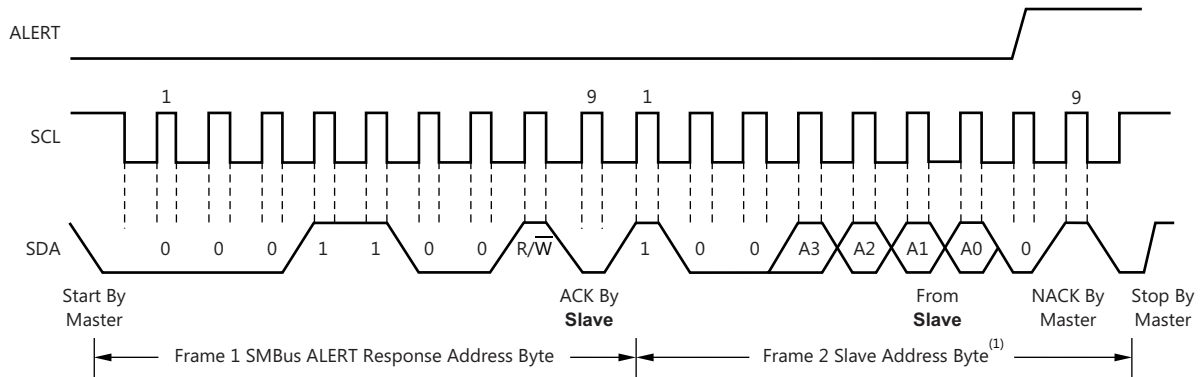
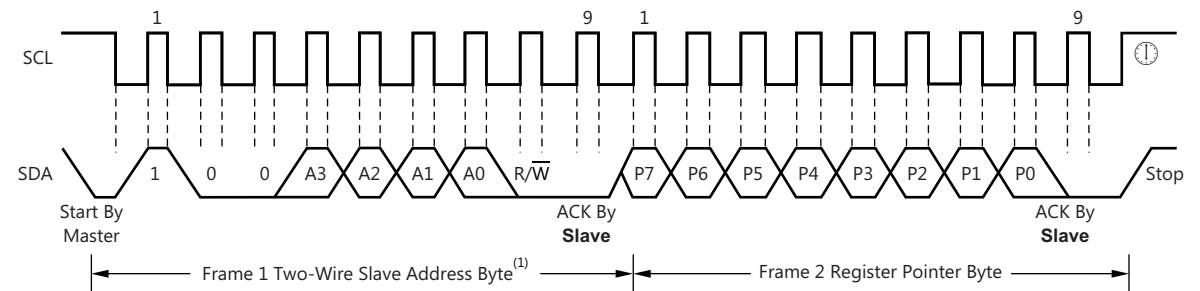

Figure 24. Timing Diagram for SMBus ALERT
Figure 25. Typical Register Pointer Set
Accessing a specific register on the INA226-Q1 is accomplished by writing the appropriate value to the register pointer. Refer to Table 4 for a complete list of registers and corresponding addresses. The value for the register pointer (as shown in Figure 25) is the first byte transferred after the slave address byte with the R/W bit low. Every write operation to the device requires a value for the register pointer.
(1) The value of the Slave Address byte is determined by the settings of the A0 and A1 pins. Refer to Table 2.
(2) Read data is from the last register pointer location. If a new register is desired, the register pointer must be updated. See Figure 25.
(3) ACK by Master can also be sent.
Figure 24 shows the timing diagram for the SMBus Alert response operation. Figure 25 illustrates a typical register pointer configuration.